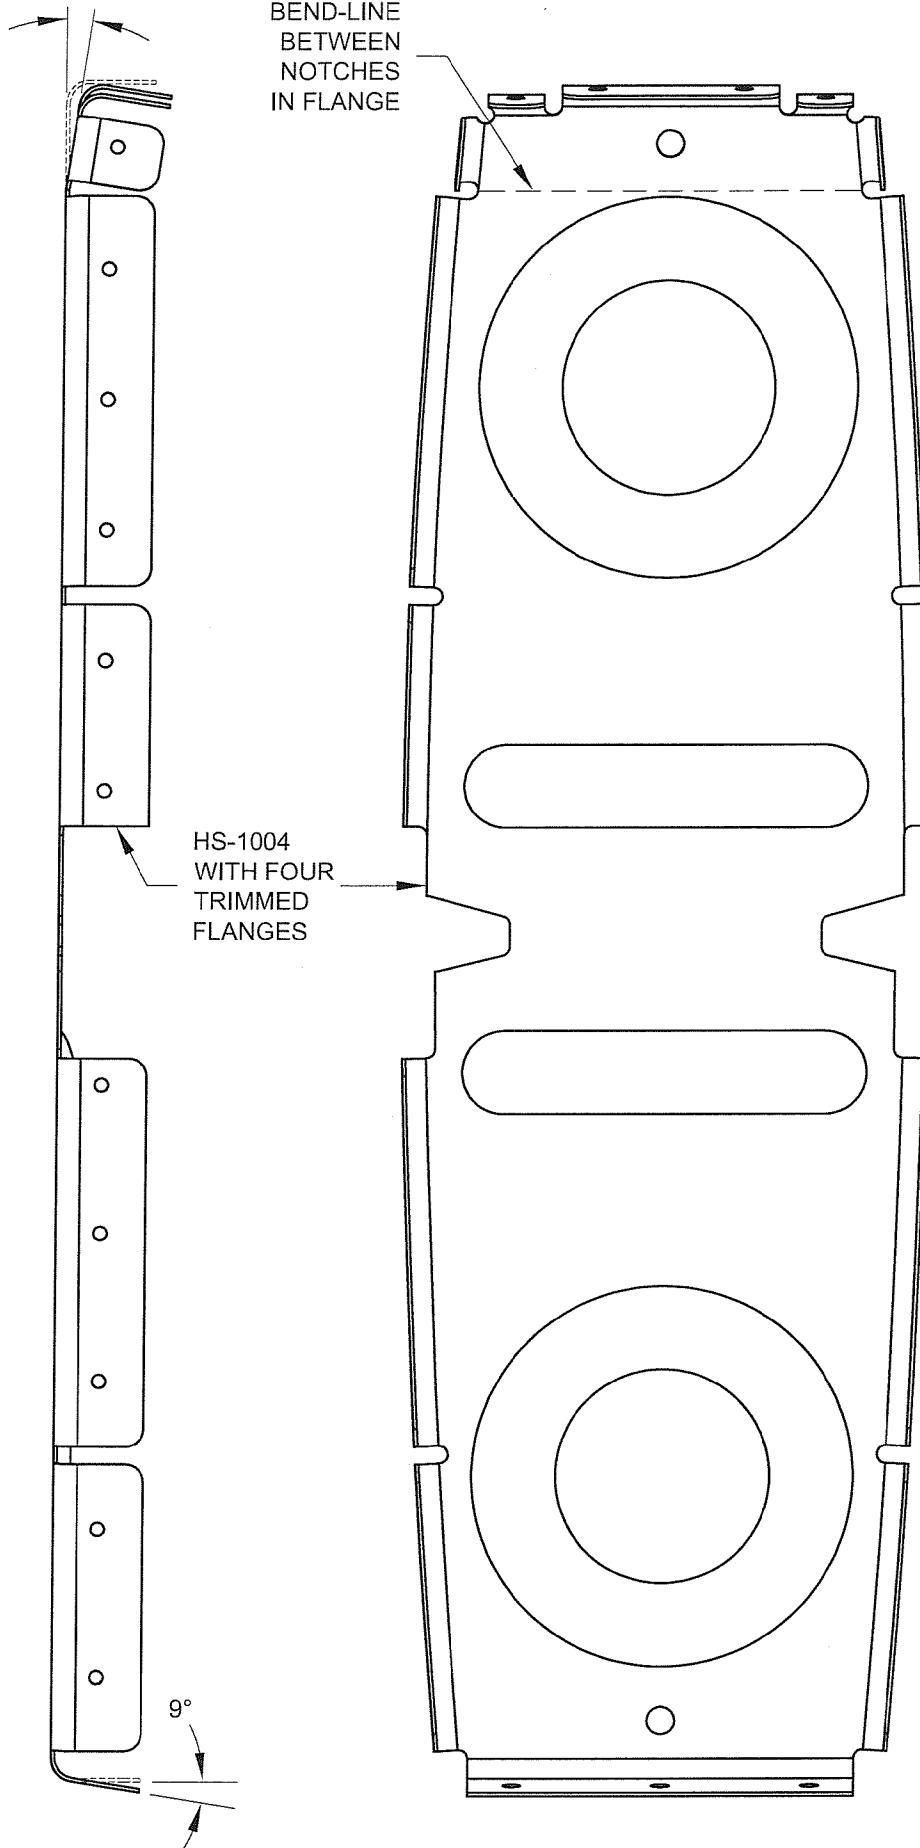

**FIGURE 2: TRIMMING RIB FLANGES**
Step 3: Locate four of the HS-1004 Inspar Ribs. Remove the portion of the top and bottom flange, shown in the upper rib drawing of Figure 2, from all four ribs.
Step 4: Set two of the ribs from step 3 aside, then remove the small flange, shown in the lower rib drawing of Figure 2, from the remaining two ribs.